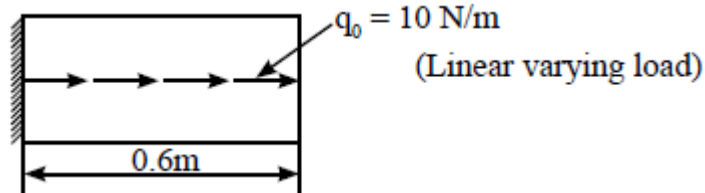

Fig. 2
- 3 a) Find the nodal displacement, stress and strain of the system shown in Fig. 2. Take $E = 70 \text{ GPa}$, Area = 1.0 m^2 .